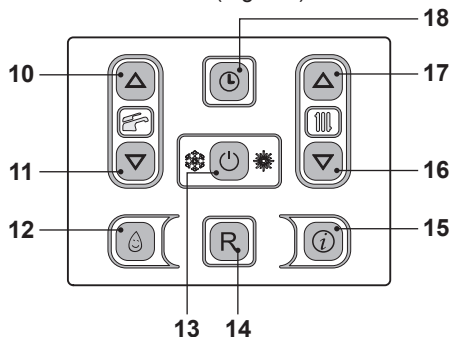
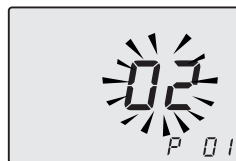
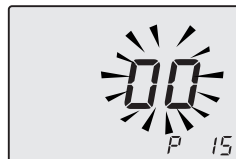

Fig. 8.7
Fig. 8.8
Fig. 8.9
- Enter in "programming mode" by sequentially pressing and holding keys 13 - 16 - 17 (Fig. 8.7) for 10 seconds at the same time until the letters **P01** are displayed on the LCD display, indicating that "parameter 01, has been activated (Fig. 8.8).
- Scroll the various parameters using keys 16 or 17 until the letters **P15** are displayed on the LCD display, indicating that "parameter 15" (Fig. 8.9) has been activated.
- By pressing key 13 (Fig. 8.7) confirmation of the inserted value is obtained.
- Press keys 16 or 17 (Fig. 8.7) to exit without changing the value Fig. 8.9)
However, if the ambient temperature is not comfortable, the flow temperature of the heating plant can be increased or reduced by $\pm 15^\circ\text{C}$ by acting on keys 16 (reduce) and 17 (increase) (Fig. 8.7).